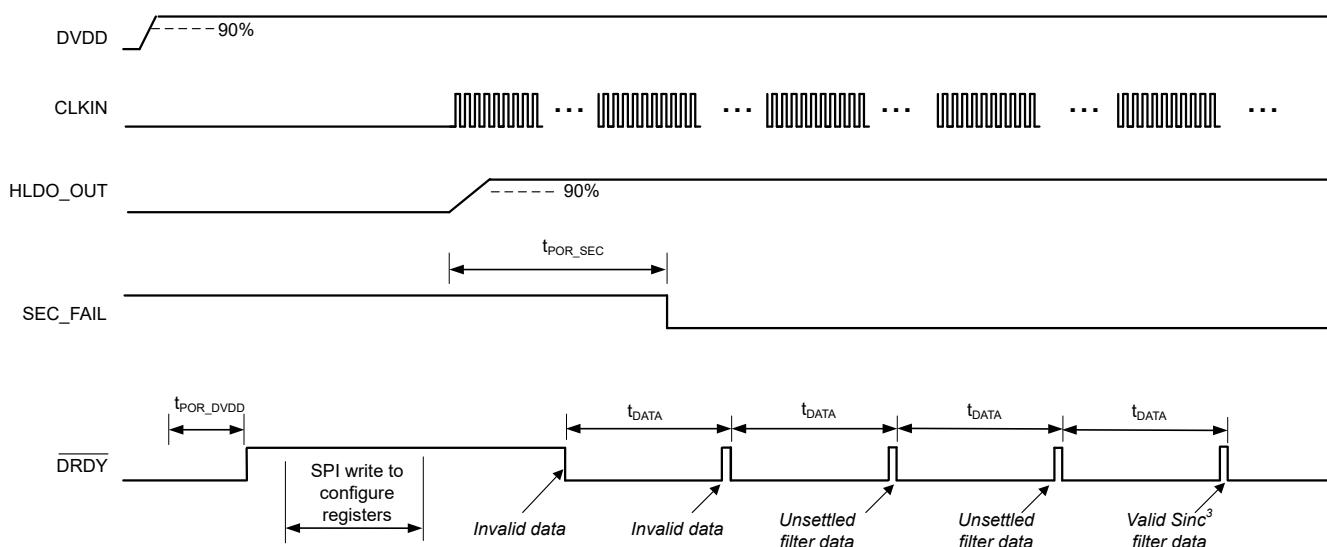
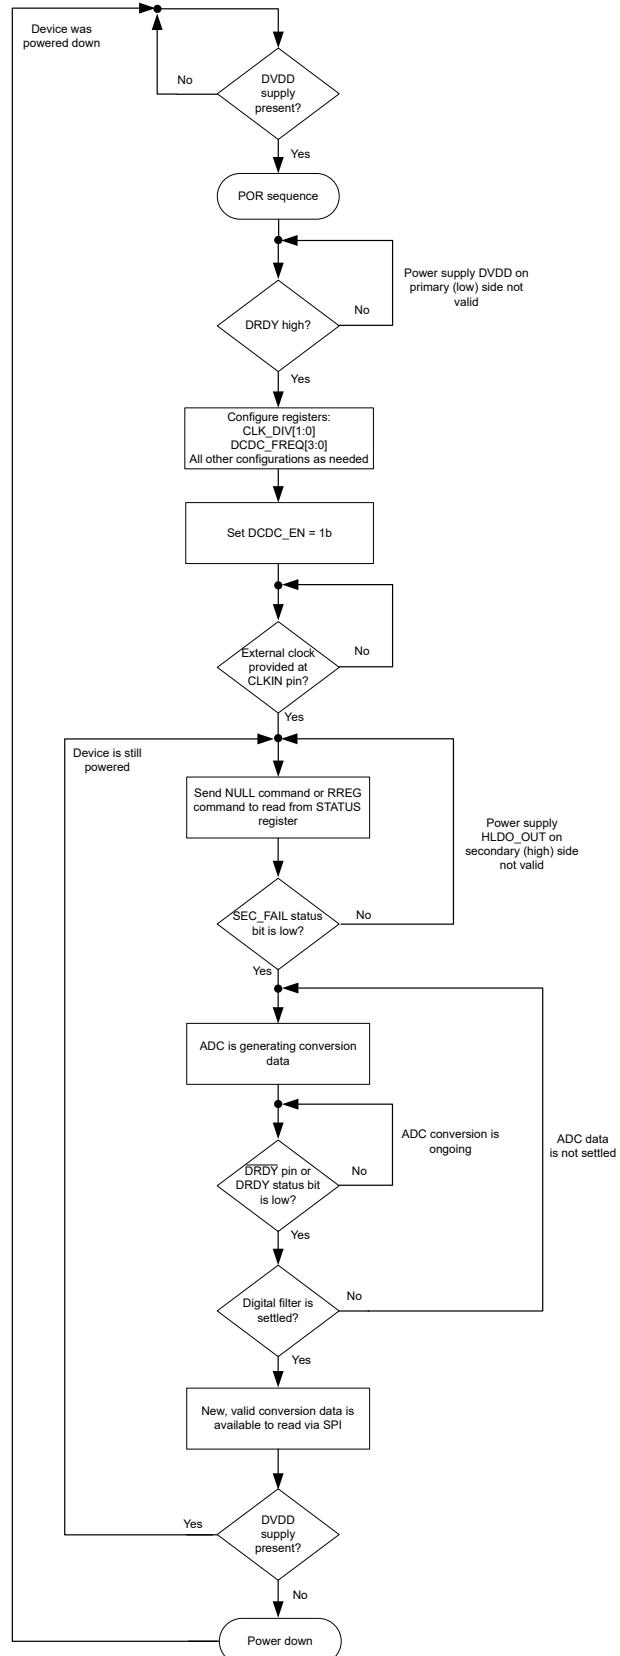

図 8-16. Start-Up Behavior at Power-Up and Settling Times, OSR = 1024
図 8-17. Flow Diagram for Start-Up Procedure at Power-Up
A recommended procedure for powering up the AMC131M02 is described in this section. 图 8-16 depicts a timing diagram for the device behavior when this recommended sequence is used. 图 8-17 provides a flow diagram that displays the recommended sequence in a graphical form.
- The high-to-low transition of \overline{DRDY} indicates that new conversion data are available. As given in 図 8-16, ADC data are only valid if the SEC_FAIL reads 0b during the conversion period. The first two conversion results shown in 図 8-16, represent invalid data.
- When the ADC generates valid data, the digital filter must settle, as described in the SINC³ and SINC³ + SINC¹ Filter section. Two subsequent conversion results illustrated in 図 8-16 are unsettled (assuming OSR equals 1024), and the last conversion result shown provides valid and settled data.
In 図 8-16, t_{POR_SEC} is the time from enabling the DC/DC converter to the first falling edge of the SEC_FAIL bit, which indicates that the secondary power supply at the HLDO_OUT pin is stable. t_{POR_DVDD} is the time from DVDD supply at 90% to \overline{DRDY} first rising edge.